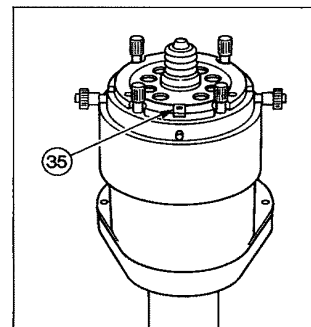

Fig. 36: Installing light
- 4) Engage the notch of lamp base and the tab on the lamp housing (Fig. 36(35)).